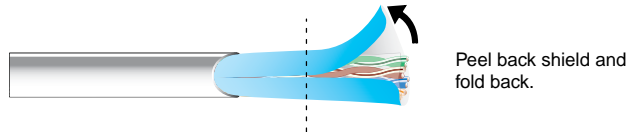

Figure 2-21 — Peeling back the cable shielding
1. Peel back the cable shielding (figure 2-21) from the end of the cable the length of the RJ-45 connector body (approximately 7/8" [2.2 cm]) and fold it back.